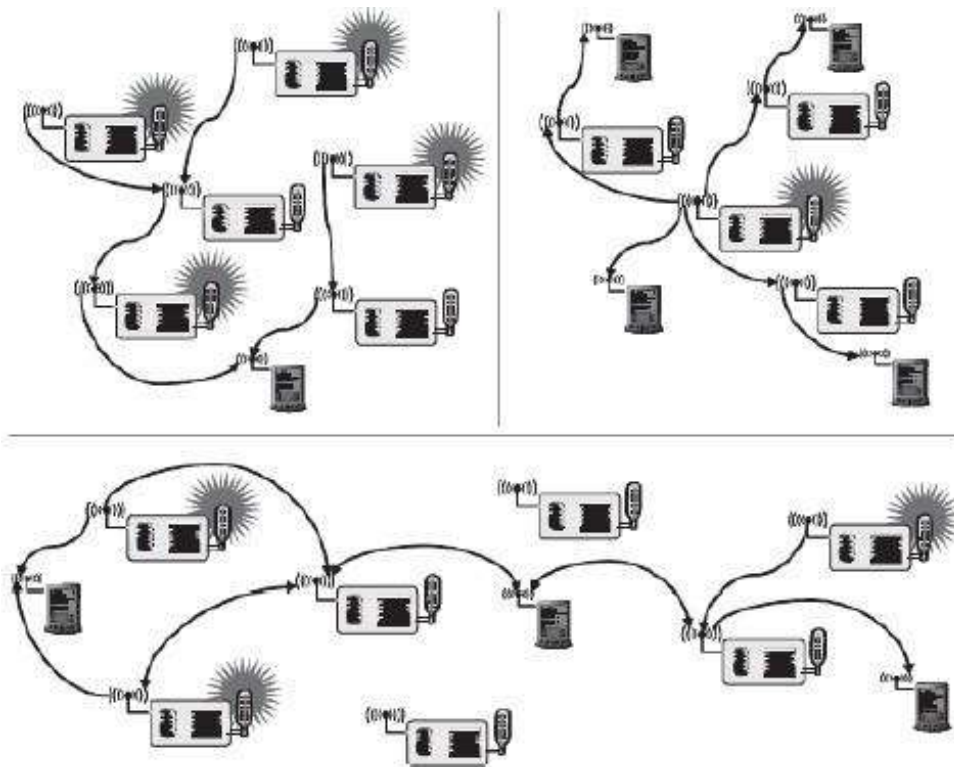

Figure 2.7 Multiple sources and/or multiple sinks.
- In many cases, multiple sources and multiple sinks present. Multiple sources should send information to multiple sinks. Either all or some of the information has to reach all or some of the sinks. This is illustrated in figure 2.7.